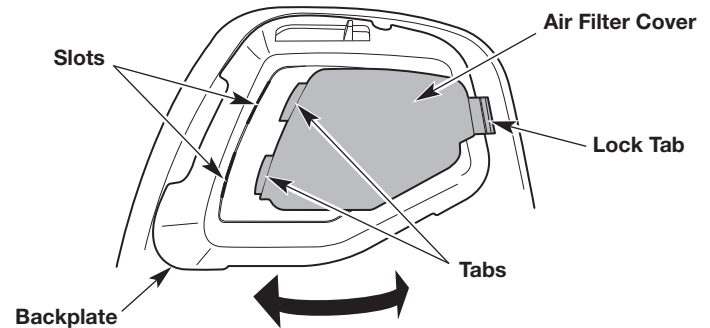

Fig. 22
1. Open the air filter cover: press in the lock tab and swing the air filter cover to the left (Fig. 22).
7. Close the air filter cover: insert the tabs on the air filter cover into the slots on the backplate. Swing the air filter cover to the right and press it closed until the lock tab snaps into place (Fig. 22).